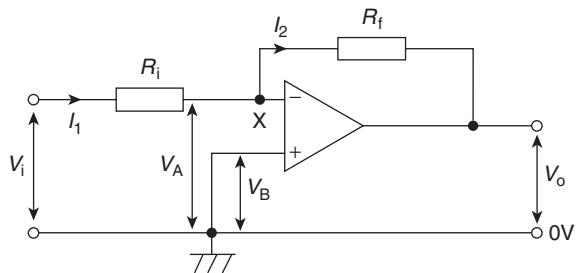
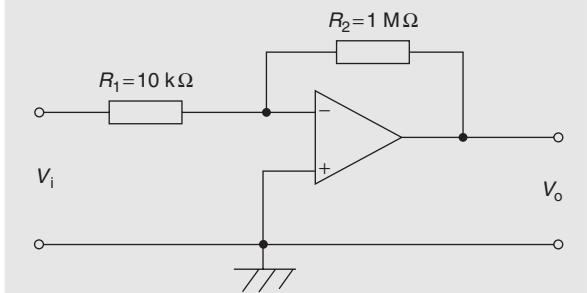

Figure 19.5
Figure 19.6
Operational amplifiers nearly always use **negative feedback**, obtained by feeding back some, or all, of the output to the inverting ( $-$ ) input (as shown in Fig. 19.5 in the next section). The feedback produces an output voltage that opposes the one from which it is taken. This reduces the new output of the amplifier and the resulting closed-loop gain  $A$  is then less than the open-loop gain  $A_o$ . However, as a result, a wider range of voltages can be applied to the input for amplification. As long as  $A_o \gg A$ , negative feedback gives:
The basic circuit for an inverting amplifier is shown in Fig. 19.5 where the input voltage  $V_i$  (a.c. or d.c.) to be amplified is applied via resistor  $R_i$  to the inverting ( $-$ ) terminal; the output voltage  $V_o$  is therefore in anti-phase with the input. The non-inverting ( $+$ ) terminal is held at 0 V. Negative feedback is provided by the feedback resistor,  $R_f$ , feeding back a certain fraction of the output voltage to the inverting terminal.
- (ii) the inputs are both at the same potential if the op amp is not saturated, i.e.  $V_A = V_B$  in Fig. 19.5
In Fig. 19.5,  $V_B = 0$ , hence  $V_A = 0$  and point X is called a **virtual earth**. Thus,
**Problem 4.** In the inverting amplifier of Fig. 19.5,  $R_i = 1\text{ k}\Omega$  and  $R_f = 2\text{ k}\Omega$ . Determine the output voltage when the input voltage is: (a) +0.4 V
**Problem 5.** The op amp shown in Fig. 19.6 has an input bias current of 100 nA at 20 °C. Calculate (a) the voltage gain, and (b) the output offset voltage due to the input bias current. (c) How can the effect of input bias current be minimised?
Comparing Fig. 19.6 with Fig. 19.5, gives  $R_i = 10\text{ k}\Omega$  and  $R_f = 1\text{ M}\Omega$
(c) The effect of input bias current can be minimised by ensuring that both inputs ‘see’ the same driving resistance. This means that a **resistance of value of 9.9 kΩ** (from part (b)) should be placed between the non-inverting (+) terminal and earth in Fig. 19.6
With reference to Fig. 19.5, and from equation (5),
4. In the inverting amplifier of Fig. 19.5 (on page 292),  $R_i = 1.5 \text{ k}\Omega$  and  $R_f = 2.5 \text{ k}\Omega$ . Determine the output voltage when the input voltage is: (a) +0.6 V (b) -0.9 V